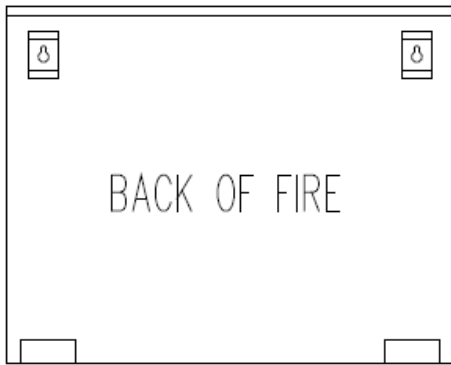
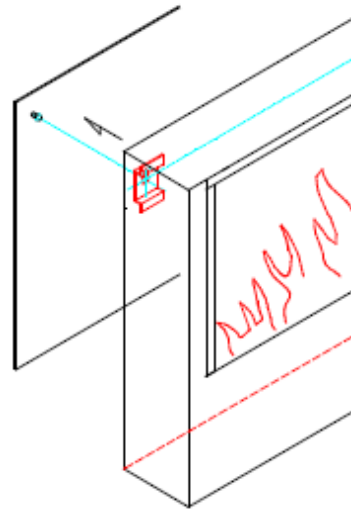

FIG 2
FIG 3
- Lift the fireplace and place the keyhole slots situated on the back of the fire (Figure 2) to the location pins on the mounting plate. A gentle application of downward pressure will lock it into place. Make sure *all* of the pins have been located into the top section of each keyhole fixing slot. (See Figures 3 & 4)